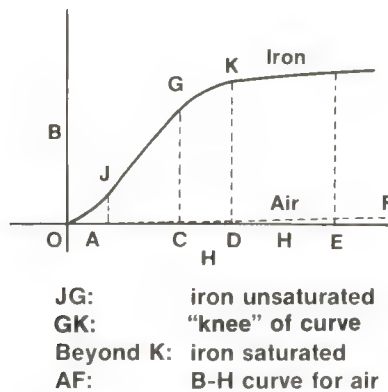

Figure B-6
B-H curve—Curve to show characteristics of a magnetic material, in terms of magnetizing force (H) and resulting flux density (B). *Magnetic Amplifiers.* (See Figure B-6.)